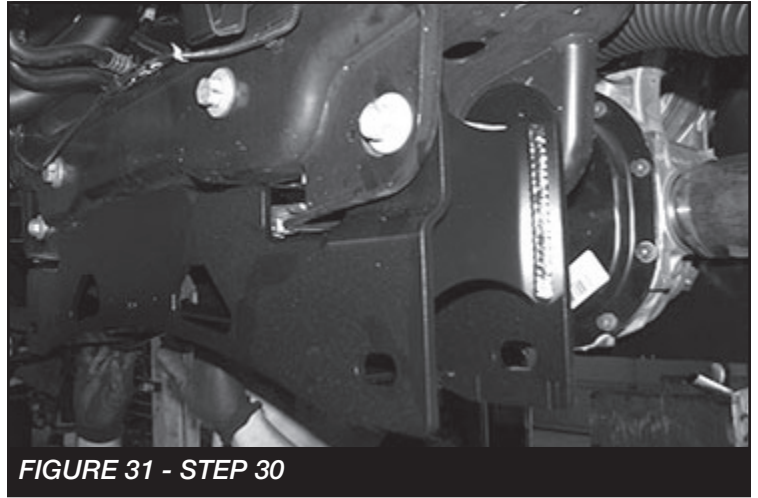

FIGURE 31 - STEP 30
30. Locate the Fabtech front crossmember (FT30576BK). Install the front crossmember into the factory front control arm pockets using the factory hardware. Make sure the skid plate tab on the crossmember is facing the Fabtech rear crossmember. Leave the hardware loose at this time. **SEE FIGURE 31**